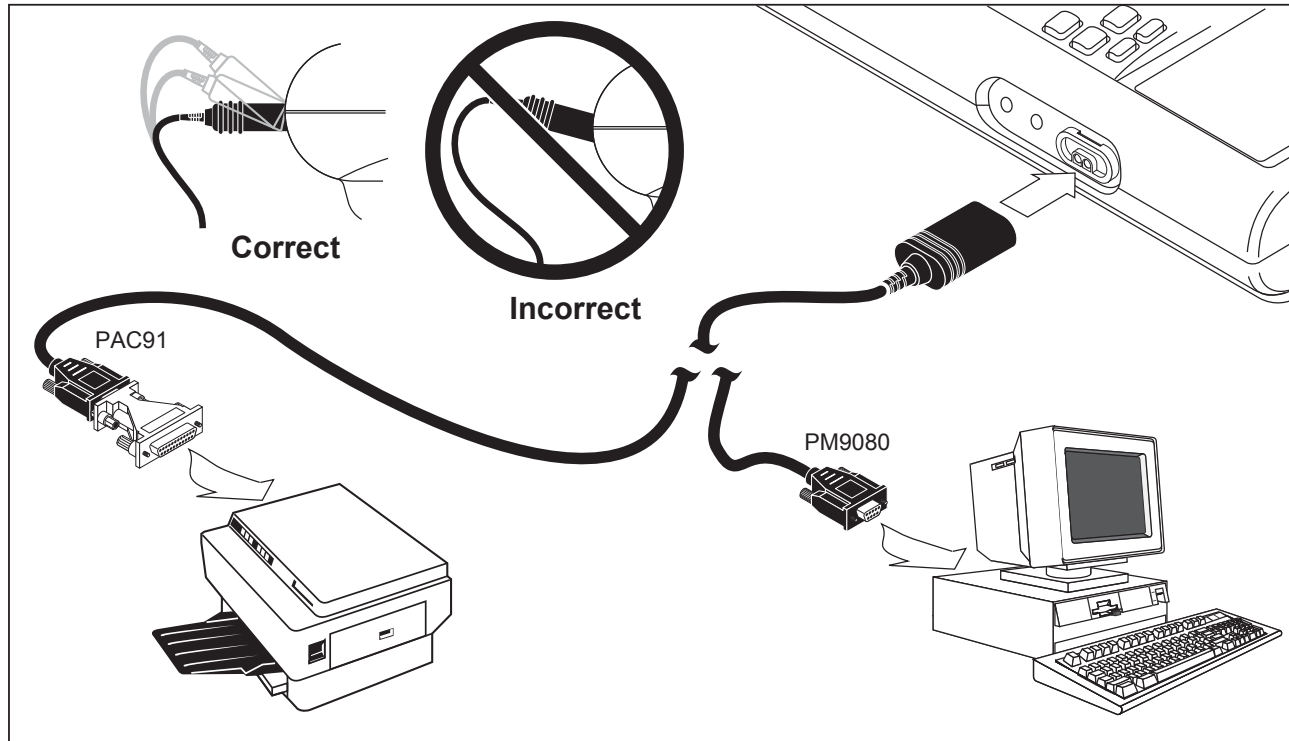

Figure 6-2. PC and Printer Connections
For Model 867B, refer to Figure 6-2 for instructions on connecting a printer or PC to the GMM test tool.
2. Connect the GMM to a printer as shown in Figure 6-2. Or, download the screen to FlukeView 860 Application Software running on a PC. Then print from FlukeView 860.